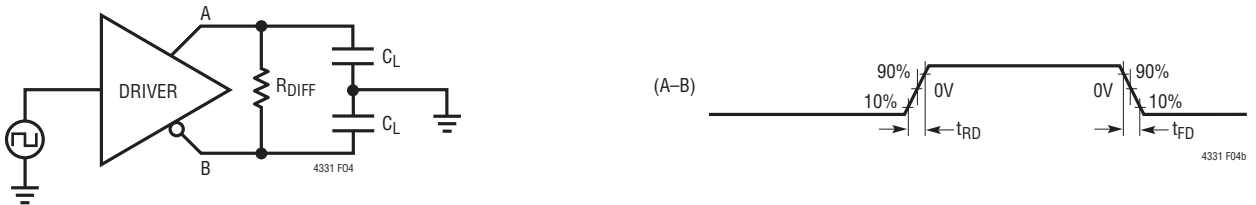

Figure 4. Driver Timing Measurement
- IEC 61000-4-2 Edition 2.0 2008-12 ESD Level 4: $\pm 8\text{kV}$ contact (A or B to GND, direct discharge to bus pins with transceiver and protection circuit mounted on a test card with a low impedance ground discharge path from board GND to ESD gun return lead, per Figure 4 of the standard)